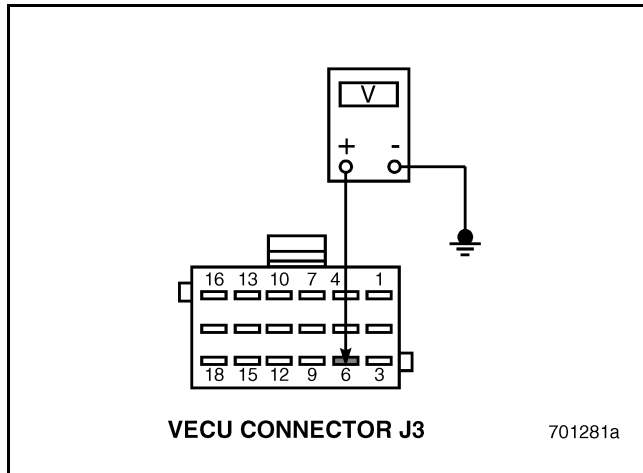

Figure 556
2. Disconnect the Throttle Position (TP) Sensor.
5. Measure the voltage between VECU connector J3 pin 6 and a good ground (see Figure 556).